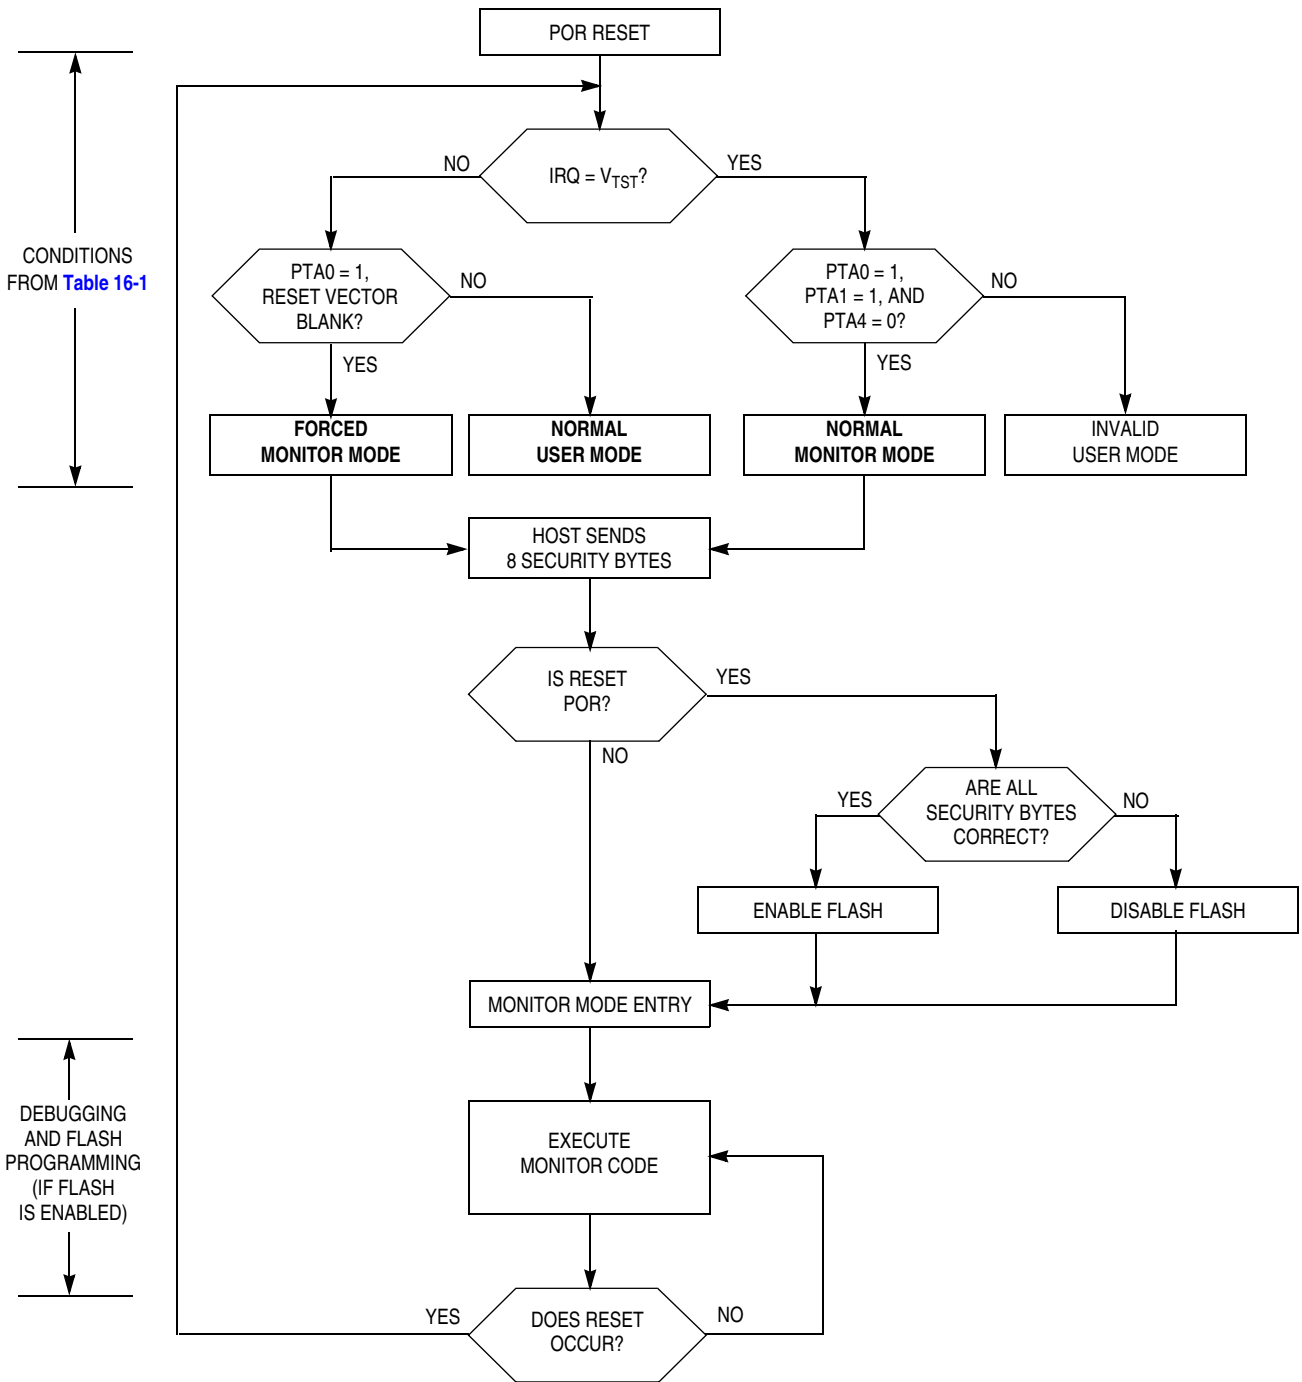

Figure 16-10. Simplified Monitor Mode Entry Flowchart
**Figure 16-10** shows a simplified diagram of monitor mode entry.